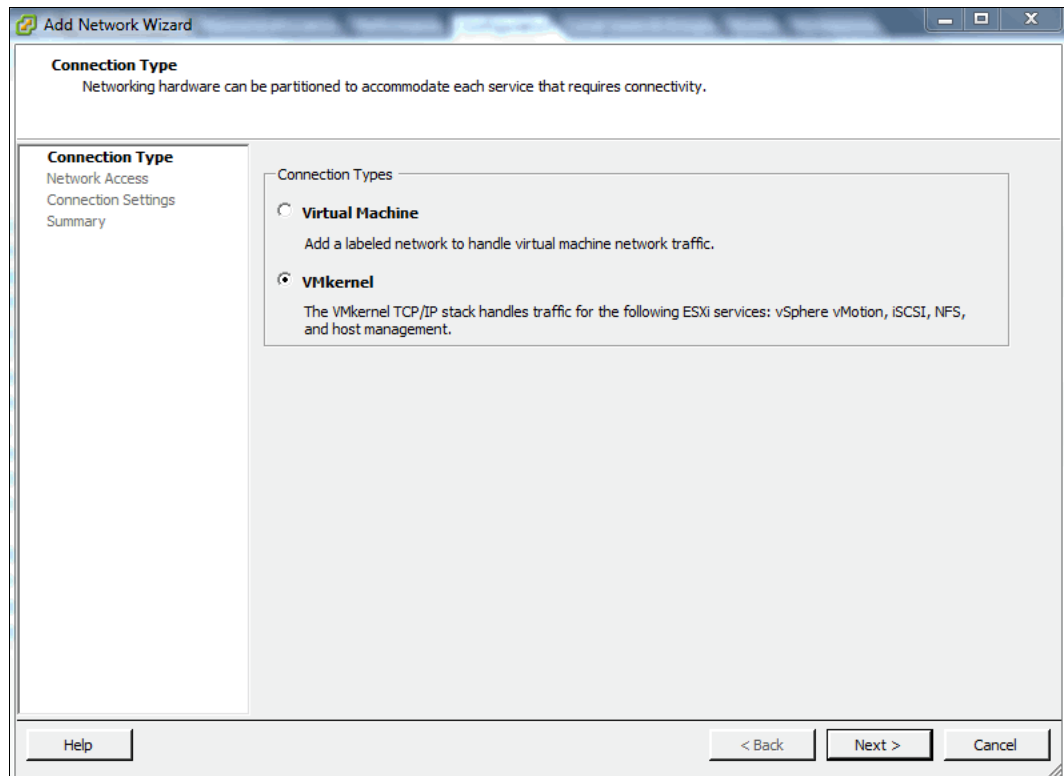

Figure 4-18 The Add Network Wizard in VMware vSphere Client
2. Click **Add Networking** to start the Add Network Wizard, as shown in Figure 4-18.